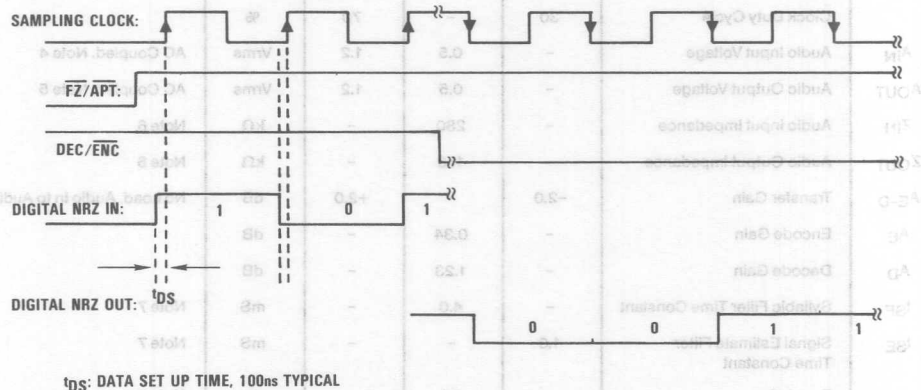

FIGURE 2. CVSD TIMING DIAGRAM
- There is one NRZ (Non-Return Zero) data bit clock period. Data is clocked out on the negative clock edge. Data is clocked into the CVSD on the positive going edge (see Figure 2). Clock may be run at less than 9Kbps and greater than 64Kbps.